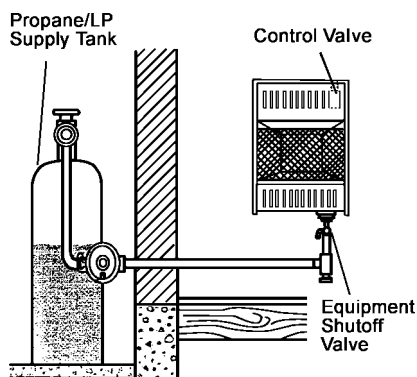

Figure 15 - Checking Gas Joints
4. Check all joints from equipment shutoff valve to control valve (see Figure 15). Apply mixture of liquid soap and water to gas joints. Bubbles forming show a leak.